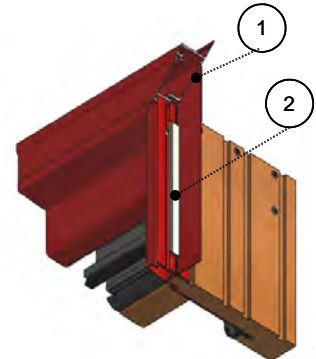

Figure 3
- c. Apply continuous bead of galvanized nailing fin sealant on each end of brickmould to head corner. (Figure 3)